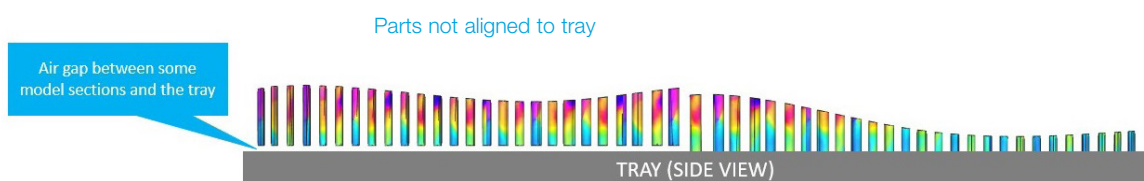

Figure 2: Align all parts to the bottom plane—Left—not aligned to tray; Right—aligned to tray
- **Align all elements to the bottom plane or surface**—All elements of the same 3D print should be aligned to the bottom plane or surface in GrabCAD Print™, so that they are positioned directly on the fabric. This prevents floating elements and ensures that the support material is not printed between the print and the fabric. (Figure 2)